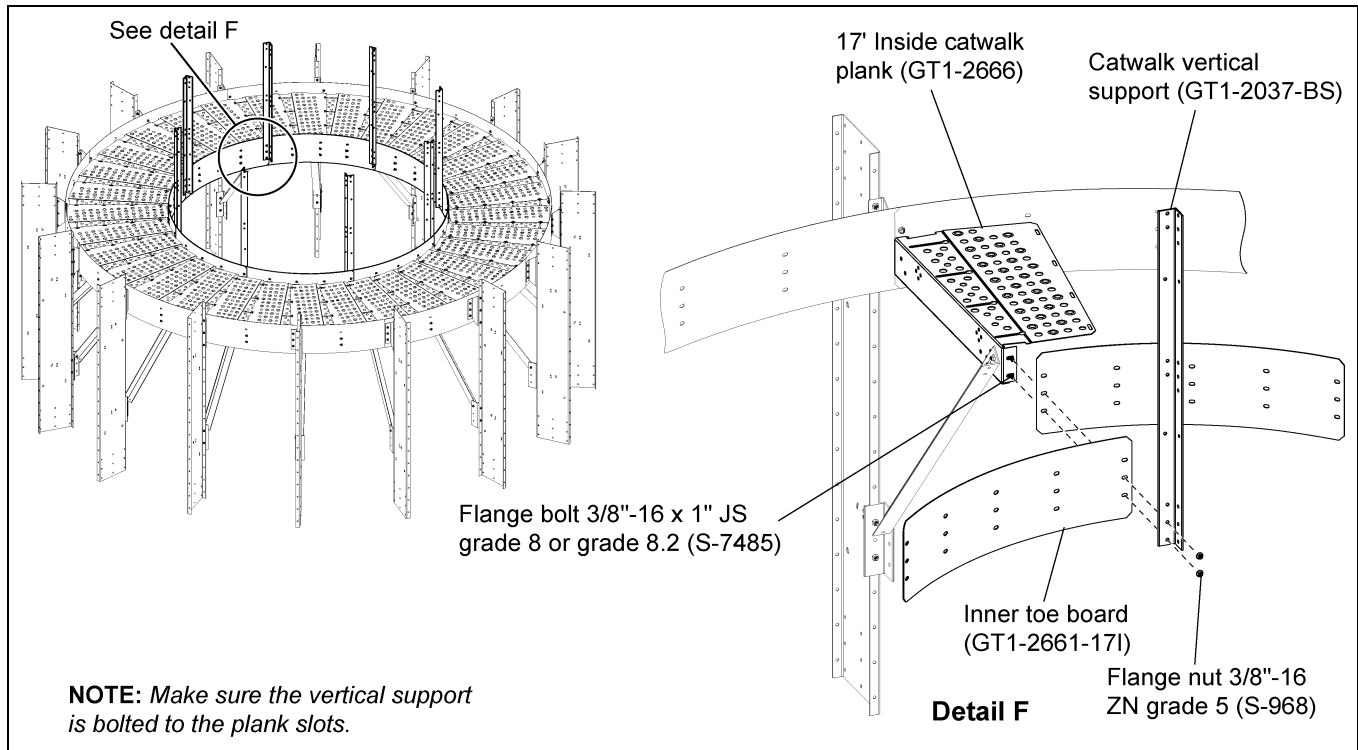

Figure 5J
1. Install all the inner toe boards (GT1-2661-17I) to the planks (GT1-2666). (See Figure 5J.)
2. When installing the inner toe board with planks, install the catwalk vertical support (GT1-2037-BS) simultaneously at proper locations using 3/8"-16 x 1" JS grade 8 or grade 8.2 bolts (S-7485) and 3/8"-16 ZN grade 5 nuts (S-968). (See Figure 5J.)